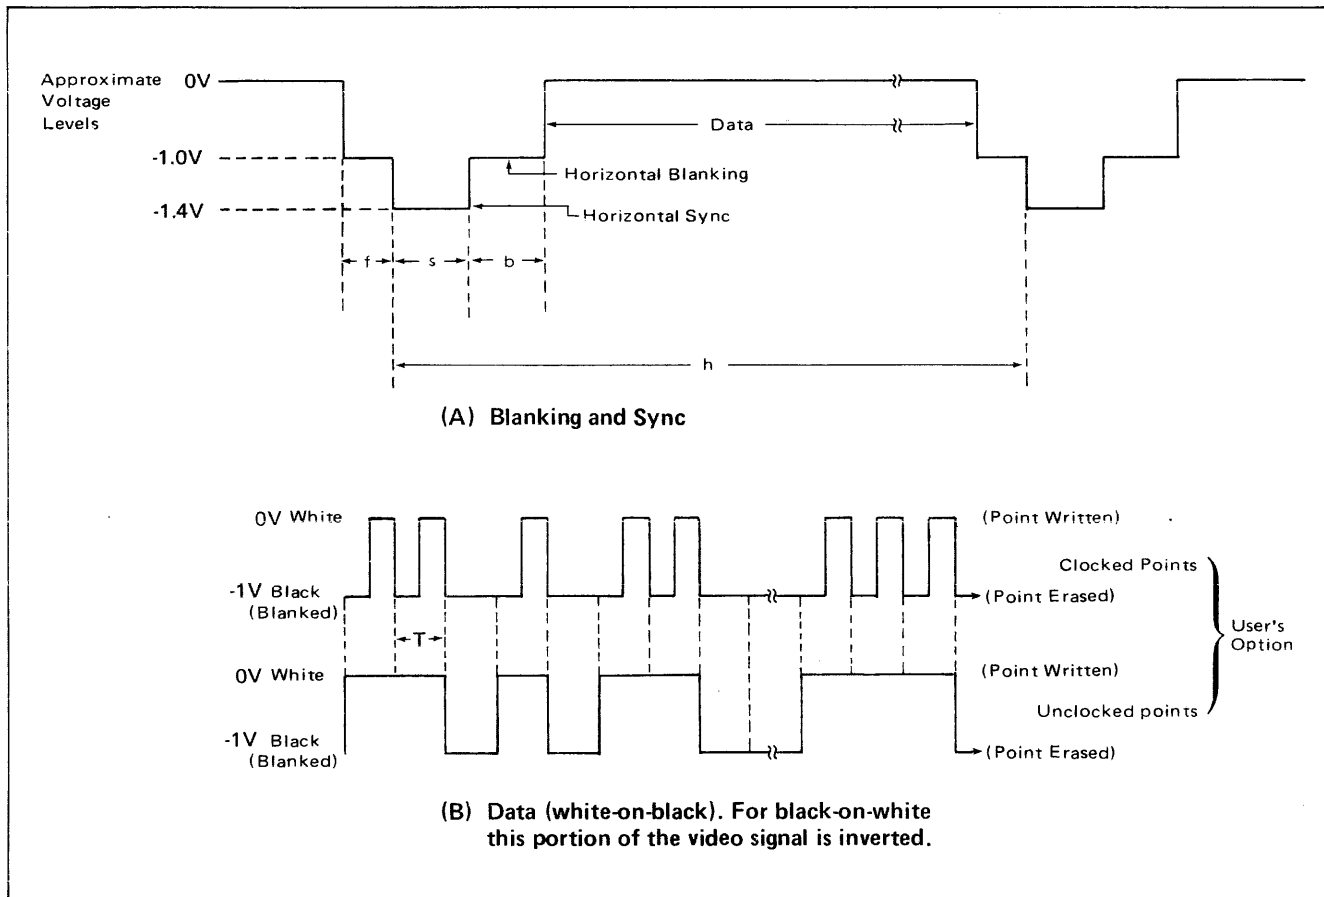

Figure 3-1. Video Signal, Horizontal Line Waveform
3-6. The TV interface card is capable of three modes of operation to satisfy requirements for three different scanning rates. Operating modes are controlled by jumper placement and the selection of a crystal as specified in table 2-1. Mode I is the American Broadcast Standard, Mode II is the European Broadcast Standard, and Mode III is a non-standard scan to achieve full 256 vertical resolution with a 60 Hertz vertical scan rate. Table 3-1 lists the card and signal specifications for each mode. Figures 3-1 through 3-4 show idealized waveforms and relationships for each mode of operation.
3-8. There are 256 points of data and 64 clock counts for horizontal blanking on each video signal horizontal line. A clock count is defined as a clock pulse interval, shown as (T) in figure 3-1. Thus, each horizontal line has the equivalent of 320 clock counts, 256 for data and 64 for blanking. Figure 3-1 illustrates the typical video signal horizontal line for the TV interface card. Each data point in the video signal is clocked and displayed as a discrete dot if jumper W6 on the card is IN. Each data point will be unclocked, blending in with adjacent points to be displayed as a line, if jumper W6 is OUT. The video polarity can be programmed through the computer so that the data points can be written black-on-white or white-on-black.
*Refer to figures 3-1 through 3-4.